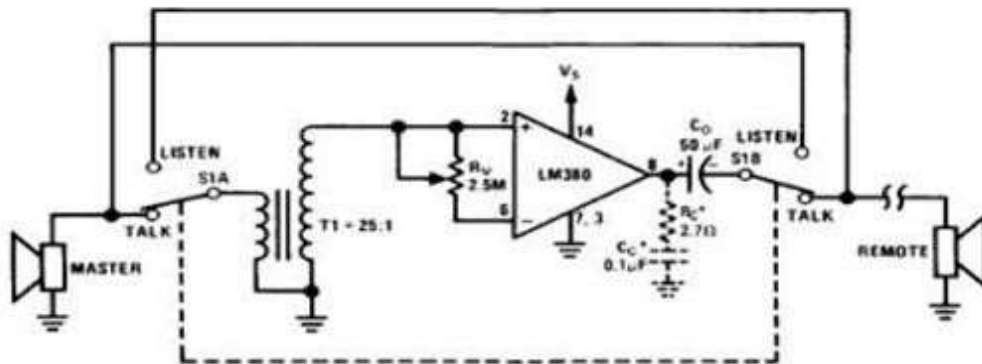

Figure 5.11.8. Intercom system using LM380 as Talk mode
- Figure 5.11.8. shown below is the Intercom system using LM380 as Talk mode. When the switch is in Talk mode position, the master speaker acts as a microphone.